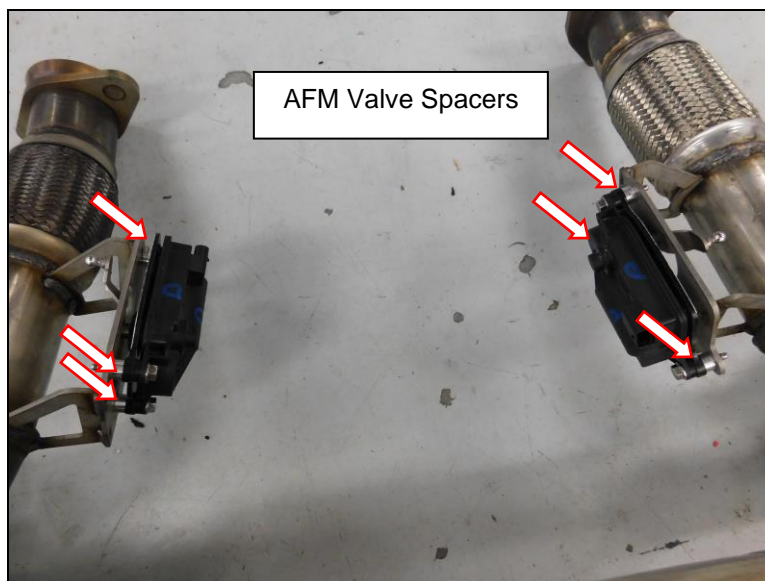
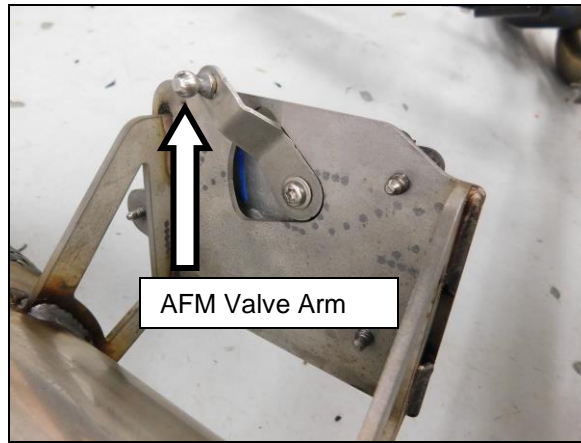

Figure 4
Figure 5
**NOTE:** On the AFM (Active Fuel Management) Exhaust Valve Simulators, install the (x6) aluminum spacers and reuse the OE bolts Figure 4. After installing, make sure the electronic actuators arms are pointing in the up position Figure 5.